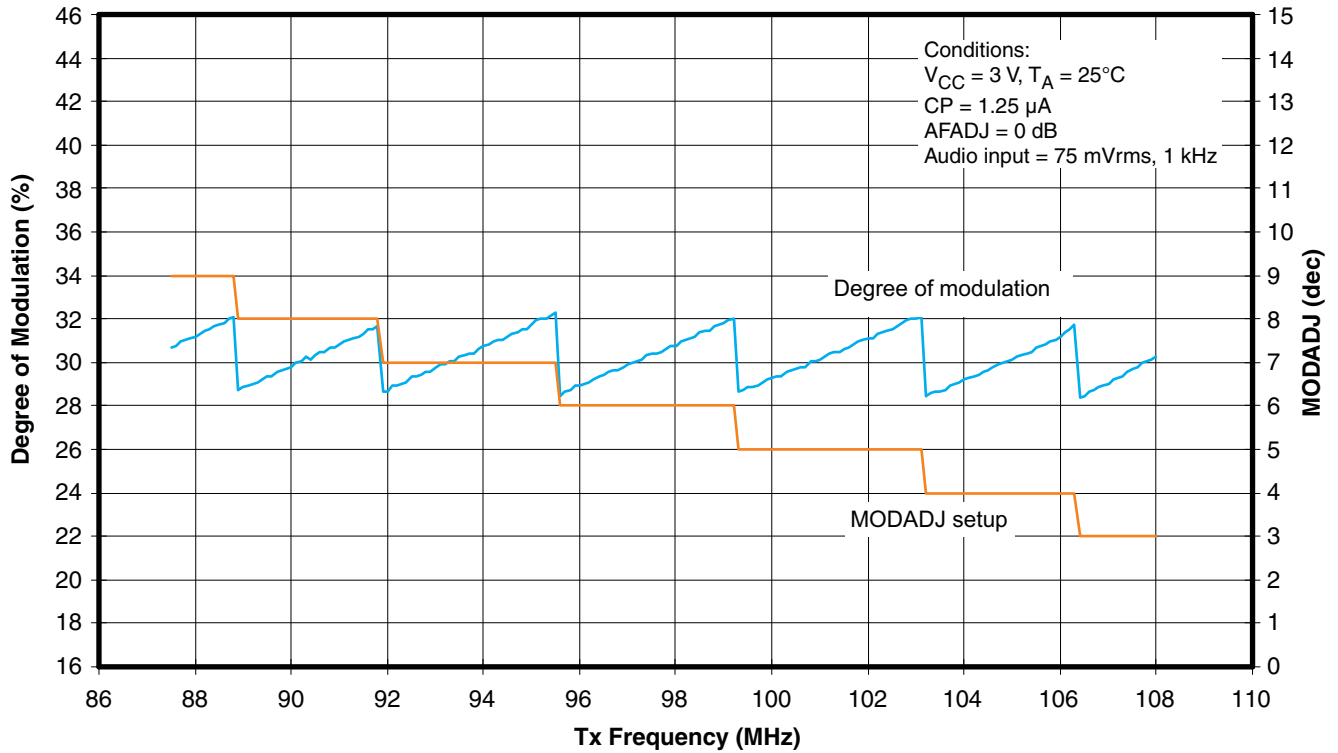
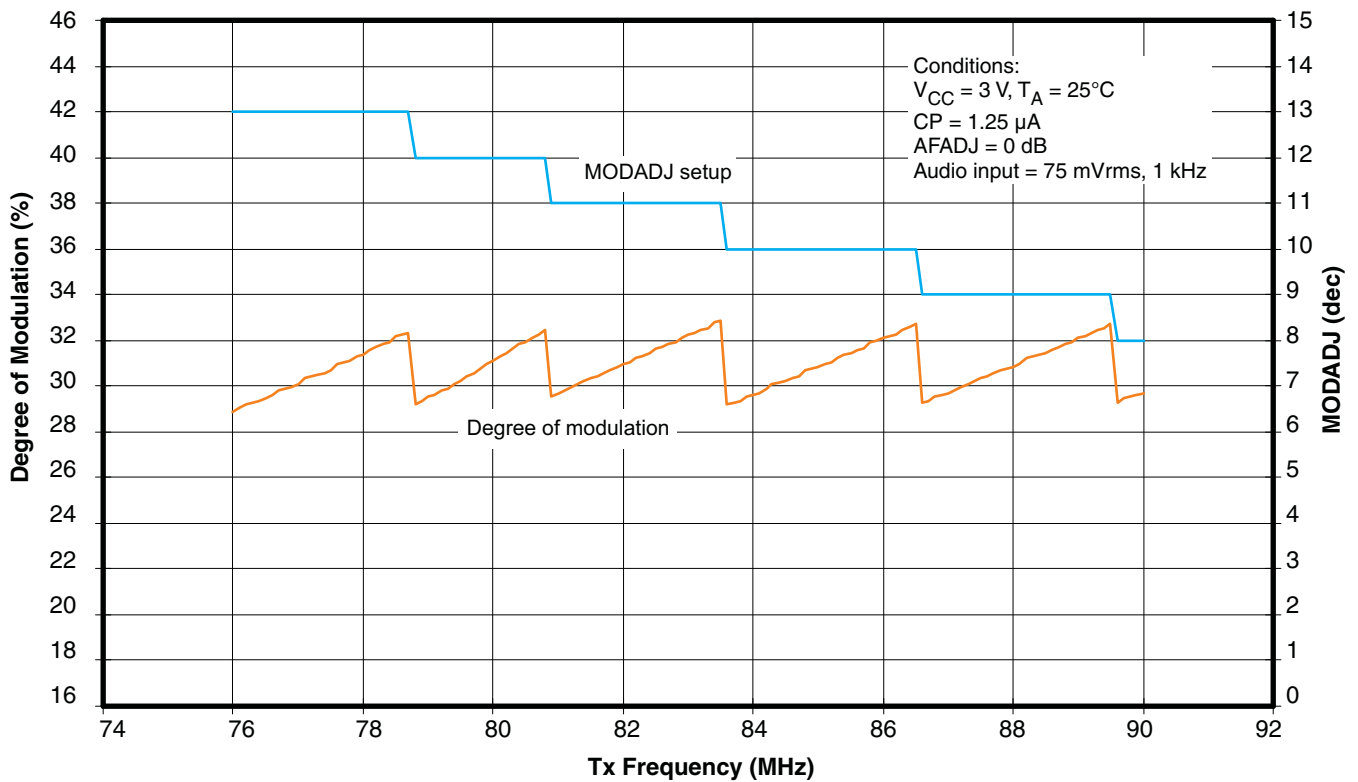

Figure 33. Tx Modulation Characteristics (US/EU Band)
Figure 34. Tx Modulation Characteristics (Japan Band)
(1) These settings are to obtain audio modulation level of 22.5 kHzdev (30% modulation) and pilot level of 7.5 kHzdev (10% modulation) when audio input level = 75 mVrms and audio input frequency = 400 Hz.
(2) An adequate level for each Tx frequency should be selected for MODADJ. See Figure 33 and Figure 34.
(3) AFADJ should be adjusted to maintain audio level \times adjust level (dB) less than 250 mVrms. For example, when audio input level for 100% modulation is 500 mVrms, AFADJ should be –6 dB (AFADJ[2:1] = 001).